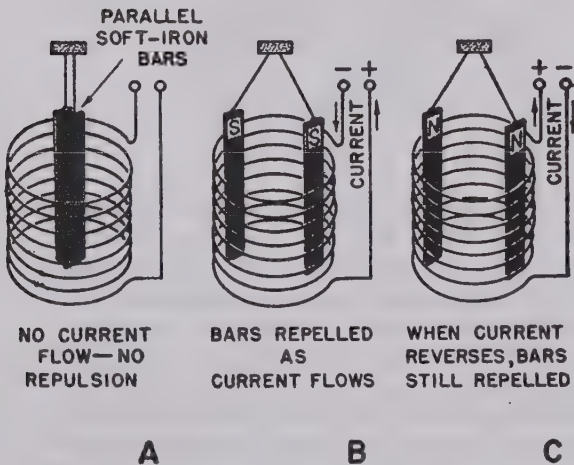

Figure 4. Effect of iron bars in electromagnet.
- (3) *Repulsion-type moving vane*. This meter, like the plunger type, operates on the principle that an electromagnet magnetizes soft iron. Two iron bars are used instead of one, and both are placed completely inside the coil. When current flows, the bars are magnetized with the same polarity (fig. 4) and,